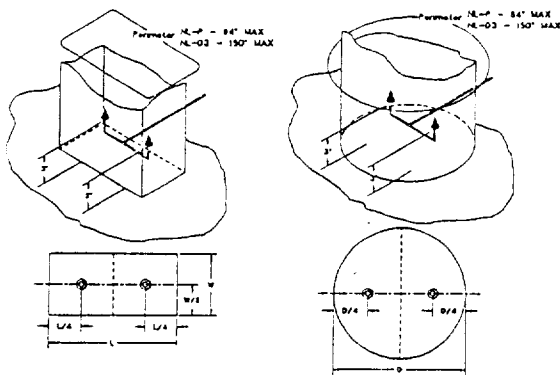

Figure 3-2.1. Dual Nozzle Placement In Duct.
Two (2) Model NL-P exhaust duct nozzles can protect a square or rectangular duct with a maximum perimeter of 84 inches and a maximum one-side length of 34 inches. They can also protect a round duct with a maximum circumference of 84 inches and a maximum diameter of 26.5 inches. When two (2) Model NL-P nozzles are used to protect a single duct, the cross sectional area of the duct must be divided into two equal symmetrical areas. The nozzle must then be installed on the center line of the area it protects and aimed directly into the duct opening (see Figure 3-2.1).
Two (2) Model NL-D3 exhaust duct nozzles can protect a square or rectangular duct with a maximum perimeter of 150 inches and a maximum one-side length of 66 inches. They can also protect a round duct with a maximum circumference of 150 inches and a maximum diameter of 47.5 inches. When two (2) Model NL-D3 nozzles are used to protect a single duct, the cross sectional area of the duct must be divided into two equal symmetrical areas. The nozzle must then be installed on the centerline of the area it protects and aimed directly into the duct opening (see Figure 3-2.1).